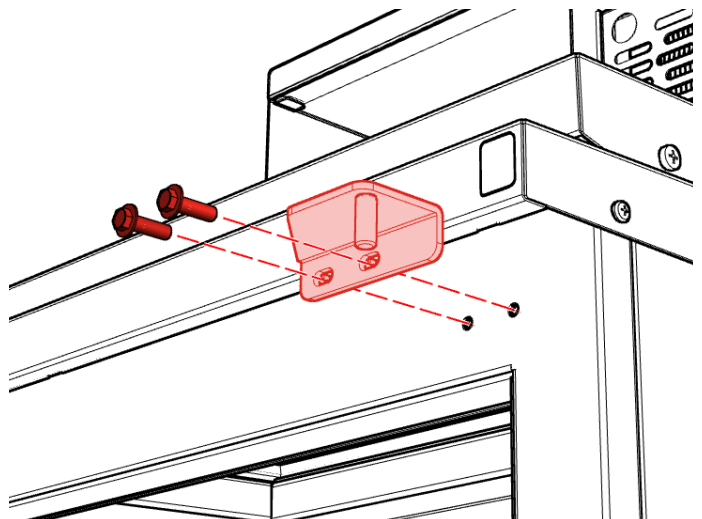

Fig. 11
Remove two (2) screws fastening top-right hinge to front of unit (Fig. 11). Reinstall screws into empty holes.